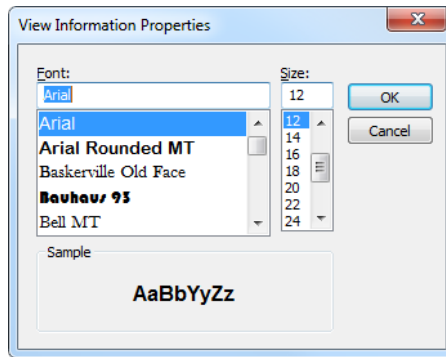

Figure 4-55 The View Information Properties dialog box
8. In the **View Information Properties** dialog box (see Figure 4-55 on page 282), select the desired **Font** and **Size** for the readings, and then click **OK**.